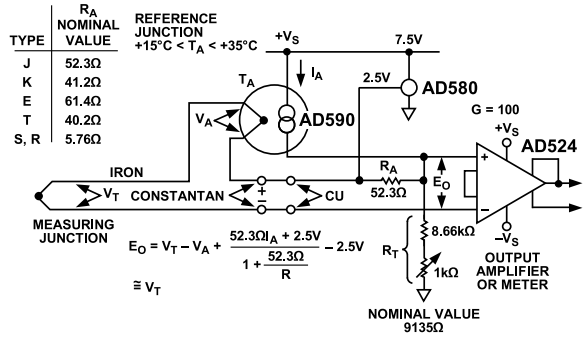

Figure 53. Cold Junction Compensation
Figure 53 shows a simple application in which the variation of the cold junction voltage of a Type J thermocouple-iron ± constantan is compensated for by a voltage developed in series by the temperature sensitive output current of an AD590 semiconductor temperature sensor.
5. For other ranges of ambient temperature, the equation in Figure 53 may be solved for the optimum values of R_T and R_A.